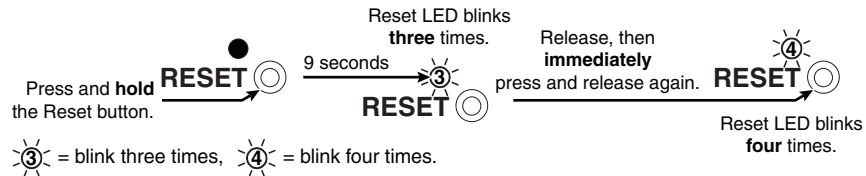

Figure 3-63 — System reset
1. Use an Extron Tweeker or other small screwdriver to press and **hold** the Reset button until the rear panel Reset LED blinks three times (approximately 9 seconds) (figure 3-63).